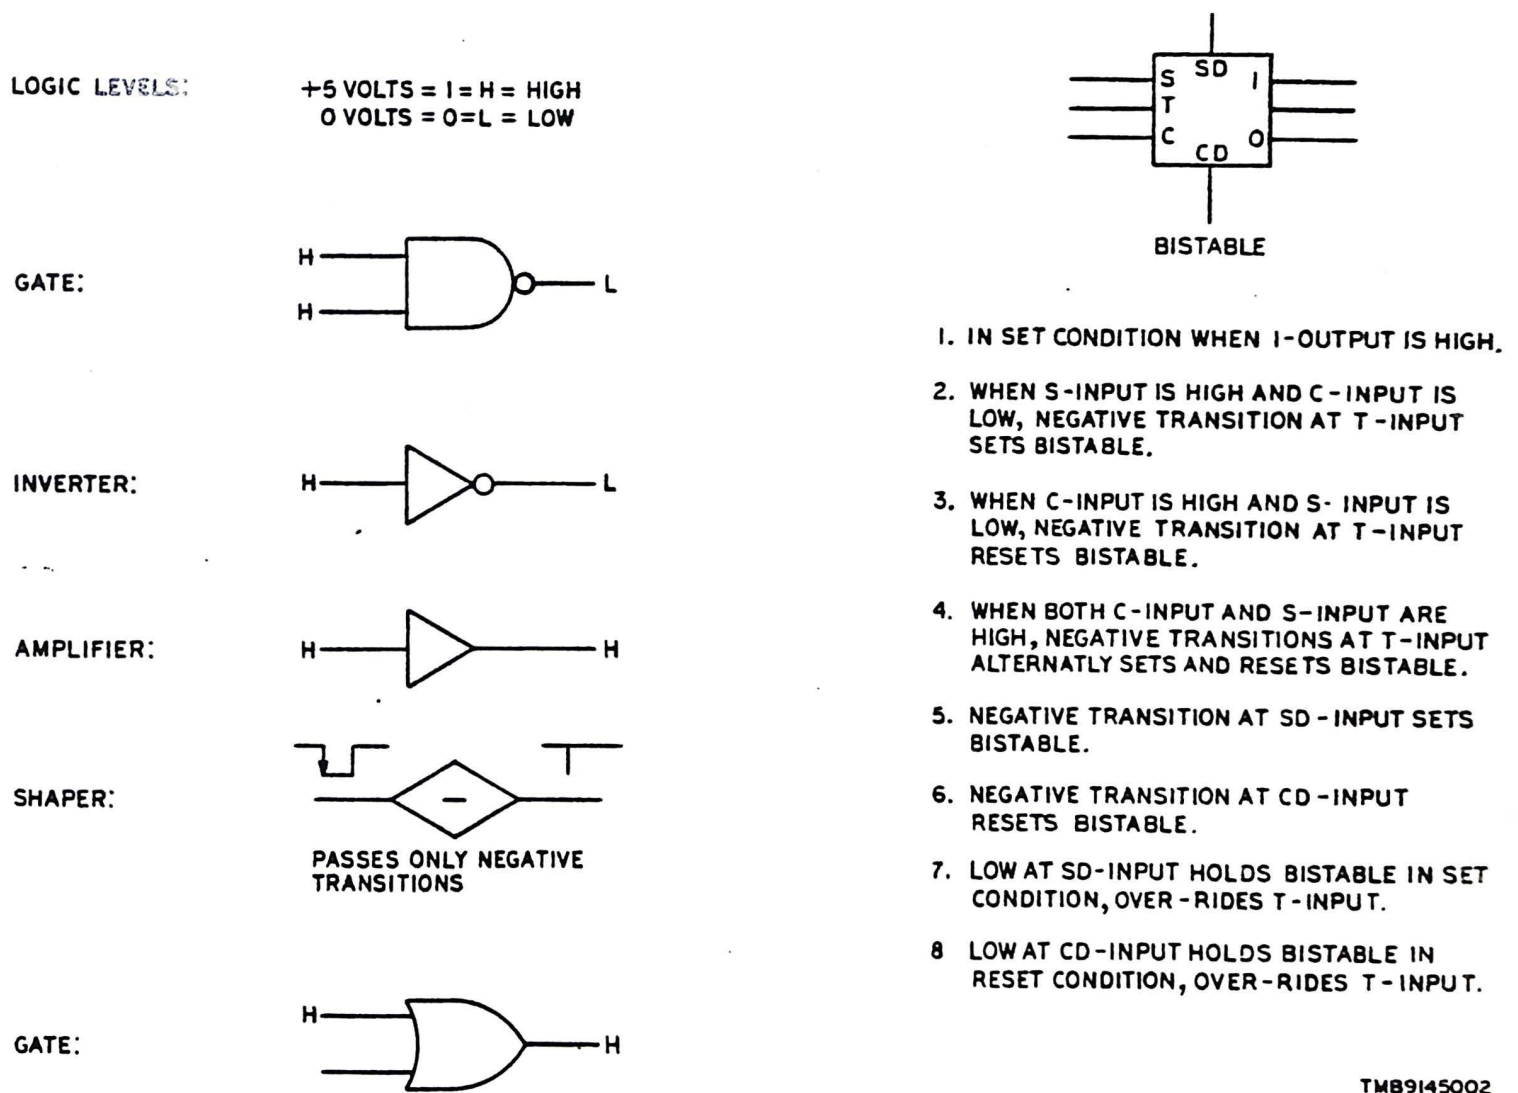

Fig. 12 - Logic Standards
3.28 The logic functions of each major circuit area are detailed in 3.29 through 3.77. Logic standards used in this analysis are described in Fig. 12.